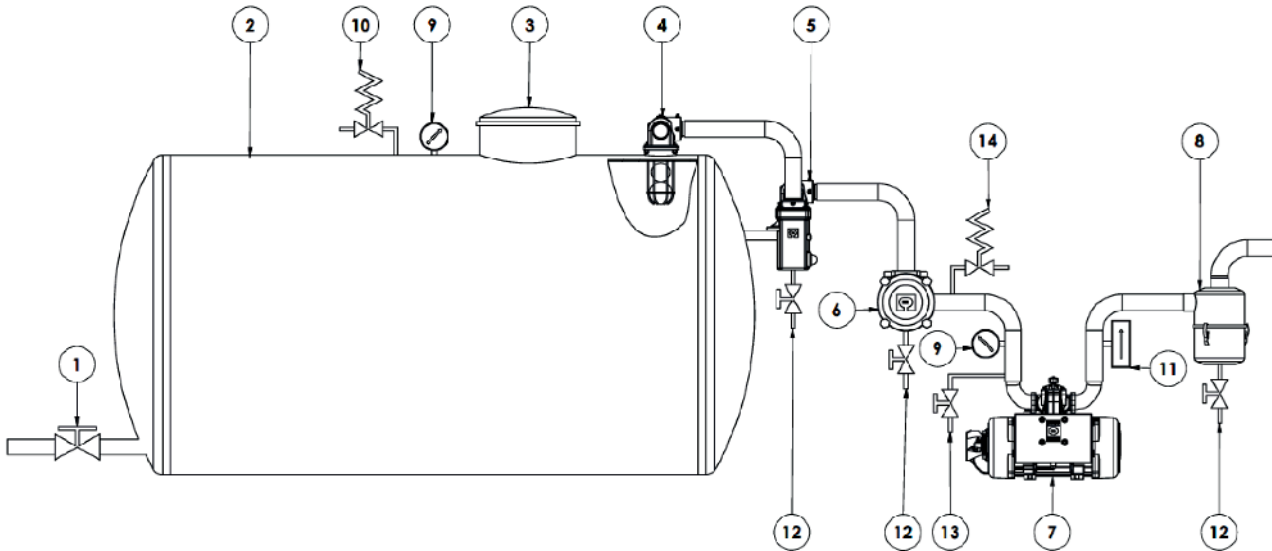

Fig. G.14 - Vacuum system diagram
For this purpose **Moro Kaiser srl** has developed a double protection system (see **Fig. G.14, page 28**).
The optional thermostat (**pos.11 Fig. G.14**) must be installed directly downstream of the pump (max. 50 mm distance).
3	Flushing valve (pos.13 Fig. G.14)